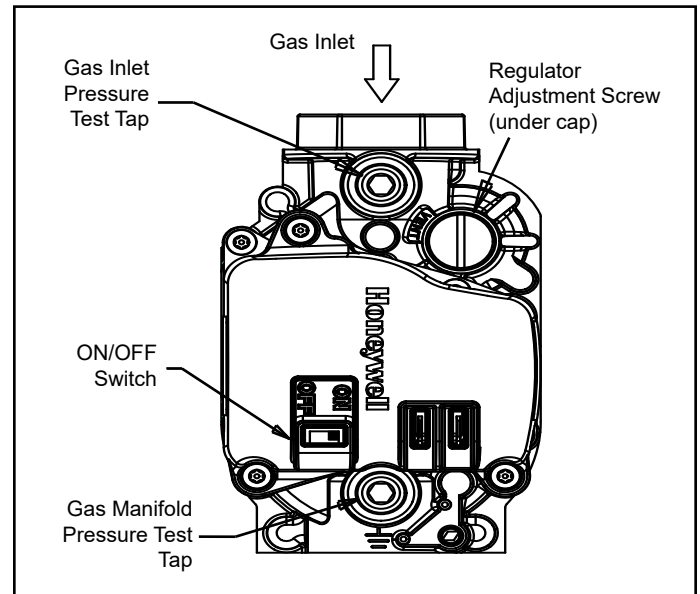

Figure 9. Gas Valve
3. Move the gas valve ON/OFF switch to the "ON" position (see Figure 9).
2. Move the ON/OFF switch to the "OFF" position (see Figure 9).